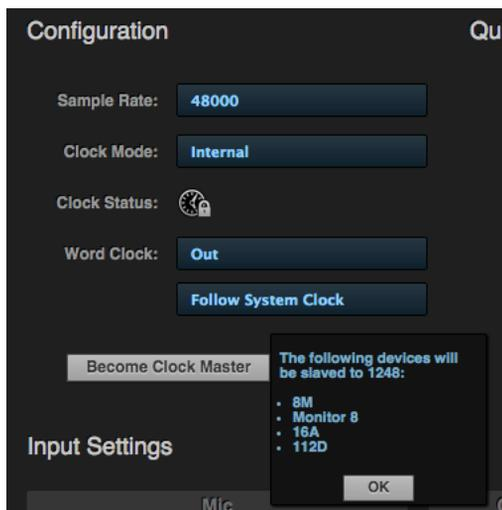

Figure 4-23: Choosing a clock master.
- 3 Click the *Become Clock Master* button (Figure 4-23).